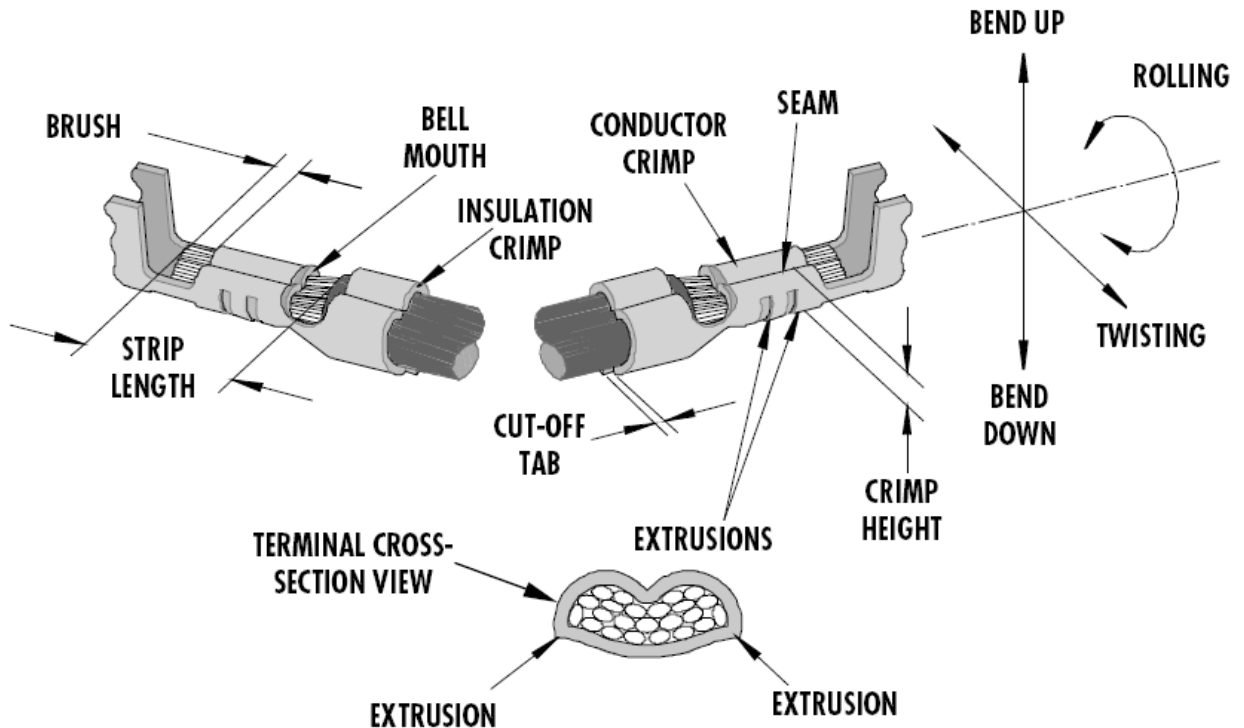

FIG. 8
4.1 Definition (FIG. 8)
- The conductor crimp height is measured from the top surface of the formed crimp to the bottom radial surface. Do not include the extrusion points in this measurement. (see fig. 8). Measuring crimp height is a quick, non-destructive way to help ensure the correct metallurgical compression of a terminal around the wire's conductor and is an excellent attribute for process control.